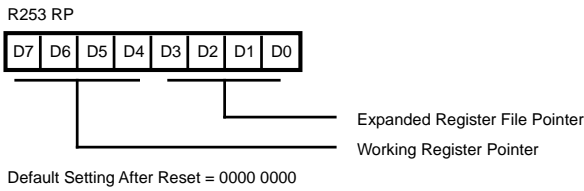

Figure 23. Register Pointer
**Comparator Inputs.** In Analog Mode, Port 3 (P31 and P32) have a comparator front end. The comparator reference is supplied to P33 and Pref1. In this mode, the P33 internal data latch and its corresponding IRQ1 is diverted to the SMR sources (excluding P31, P32, and P33) as shown in Figure 37. In digital mode, P33 is used as D3 of the Port 3 input register which then generates IRQ1 as shown in Figure 23.
Z86E73: (See Figure 23)
**Register File.** The register file (bank 0) consists of four I/O port registers, 236 general-purpose registers, and 16 control and status registers (R0-R3, R4-R239, and R240-R255, respectively), Plus two expanded registers groups (Banks D and F). Instructions can access registers directly or indirectly through an 8-bit address field. This allows a short, 4-bit register address using the Register Pointer (Figure 23). In the 4-bit mode, the register file is divided into 16 working register groups, each occupying 16 continuous locations. The Register Pointer addresses the starting location of the active working register group.